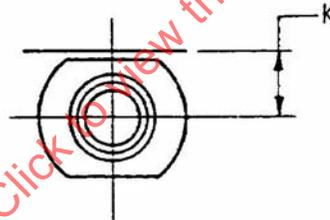

FIGURE 3 - STRAIGHT TRAPPED NUTS
3.5.1 Straight Trapped Nuts (see Figure 3 and Table 4)